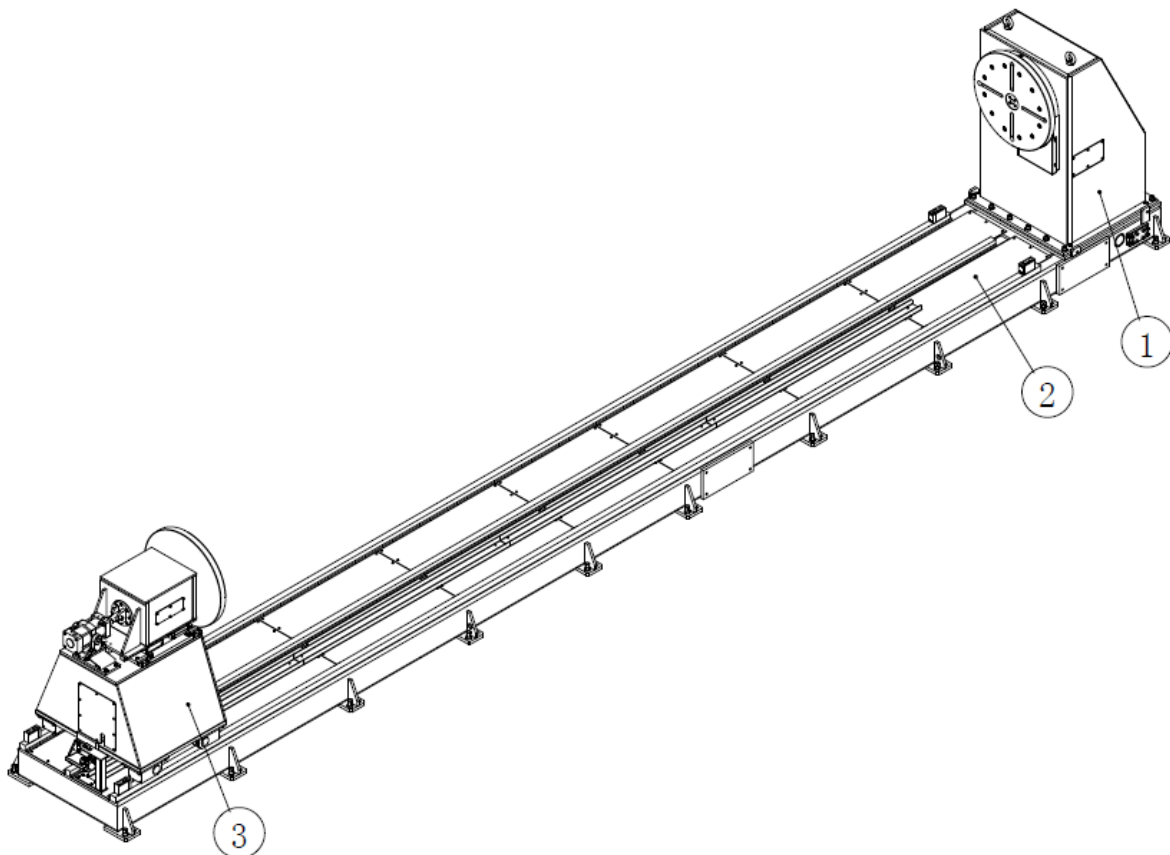

Figure 1
1. Headstock (Figure 1, item 1)
2. Tailstock (Figure 1, item 2)
3. Rail Base (Figure 1, item 3)